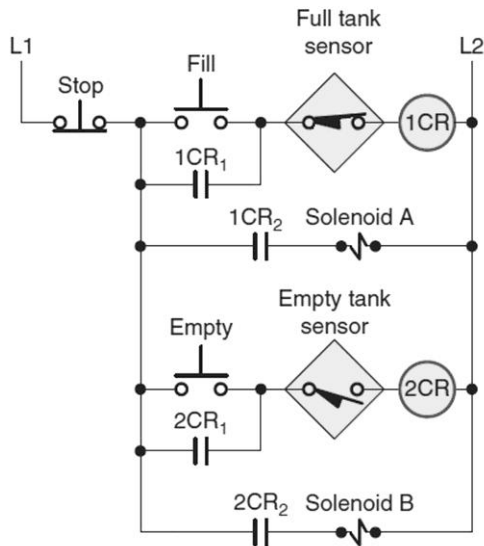

Figure 15-18 Hardwired tank filling and emptying operation for assignment 5.
5) Prepare an I/O connection diagram and ControlLogix program that will simulate the operation of the hardwired tank filling and emptying operation shown in Figure 15-18 and described in the text. Utilize field devices found on your ControlLogix installation. Enter the program into the controller, and monitor its operation.